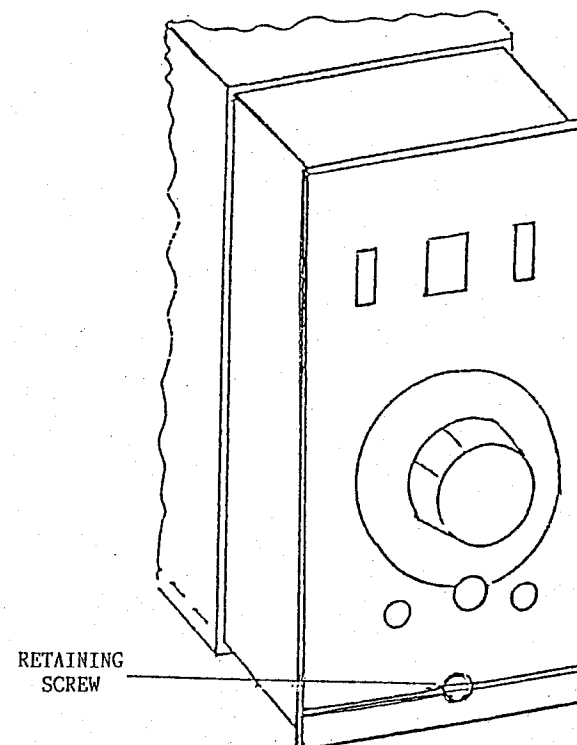

FIGURE 2-2 REMOVAL AND REPLACEMENT OF 3077 WITHIN HOUSING
2.4 REMOVAL OF INSTRUMENT FROM HOUSING (Figure 2-2)